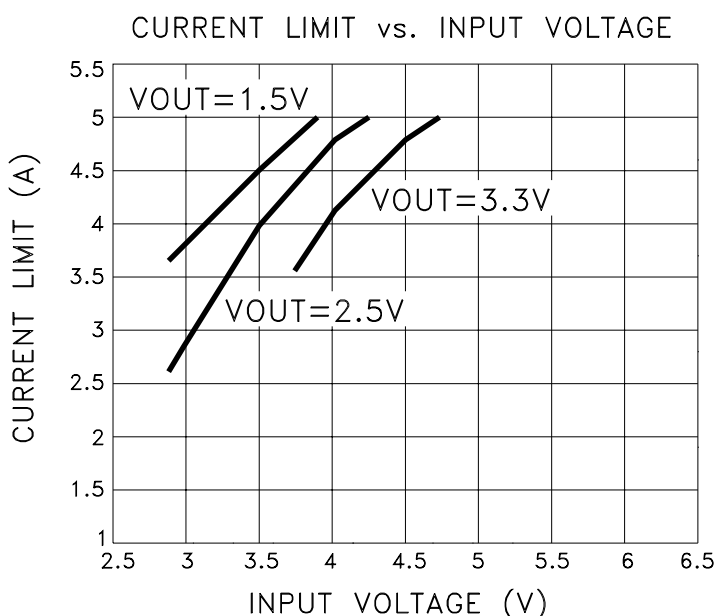

FIGURE 1
- ⑦ Output current limit is dependent upon the values of  $V_{IN}$  and  $V_{OUT}$ . See Figure 1 and typical performance curves.
- ⑧ Continuous operation at or above absolute maximum ratings may adversely effect the device performance and/or life cycle.
- ⑨  $V_{IN}$  shall be as specified or  $V_{IN Min}$ , whichever is greater.
- ⑩ Not applicable when  $V_{OUT} < V_{IN Min}$  - dropout voltage maximum.
- ⑪ Consult factory for post radiation limits.
The MSK 5921RH current limit function is directly affected by the input and output voltages. Figure 1 illustrates the relationship between VIN and ICL for various output voltages. It is very important for the user to consult the SOA curve when using input voltages which result in current limit conditions beyond 4.5 Amps. When using input voltages which result in current limit above 4.5 Amps, the user must maintain output current within the SOA curve to avoid damage to the device. Note that 5 Amp maximum is due to current carrying capability of the internal wirebonds.